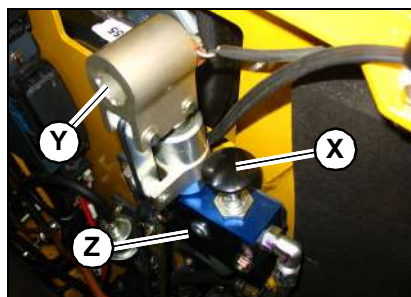

Figure 57 – Parking Brake Release Option
1. Locate the brake release jack (Z, Figure 57) and handle. Depending on your particular model, it may be necessary to remove covers and/or open the rear door of the machine.
2. Position the brake release receiver (Y) and insert the jack handle.
3. Push down and hold the plunger (Z) against the brake release.
4. Jack the brake release to build pressure. As pressure builds, plunger (X) stays down and no longer needs to be held.